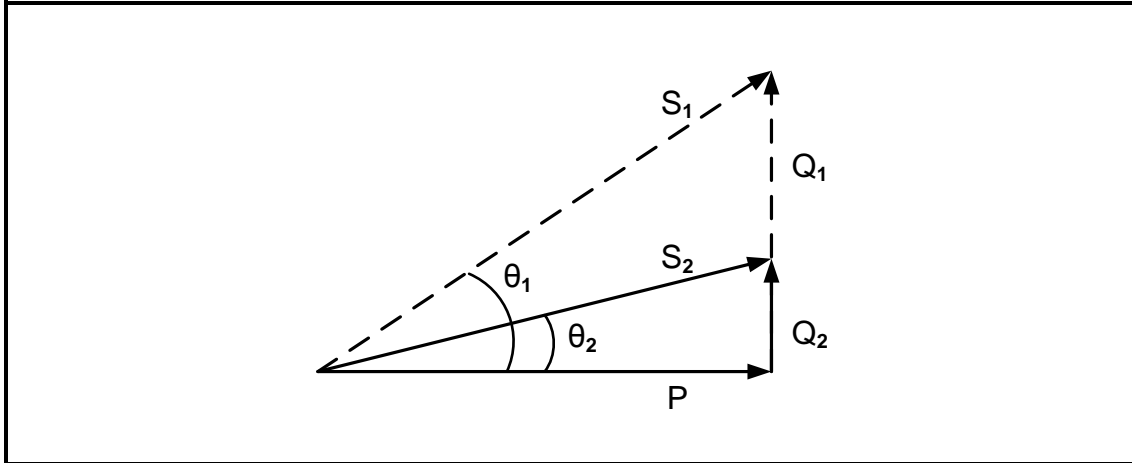

FIGURE 4.4: POWER FACTOR CORRECTION
4.4 FIGURE 4.4 below shows the result of power factor correction in a three-phase system. The supply voltage and load remained the same throughout the process. S_1 and Q_1 are original values with S_2 and Q_2 the values after power factor correction was done.
- 4.4.2 Identify ONE improvement with reference to FIGURE 4.4 above. (1)